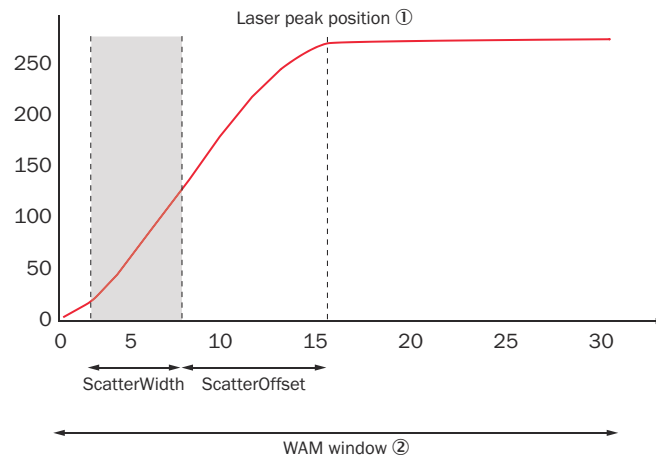

Figure 19: Example of **FrontSideBand** scatter sampling. The sampling window is shown in gray.
- **FrontSideBand**: Sampling is done on rows in front of the peak in the readout, as illustrated in figure 19.
If the peak signal is saturated on one side, as in figure 19, **FrontSideBand** sampling can be used to avoid the effects of saturation. Alternatively, **BackSideBand** sampling can be used for an approximation of the signal saturation level.